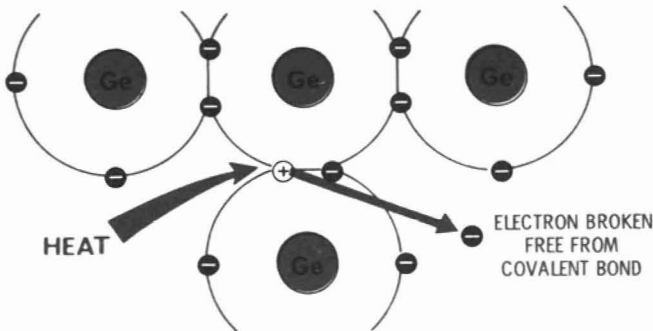

Fig. 2-4. Breaking covalent bonds.
**Hole Generation**—When the electron leaves the bond and becomes free, a so-called hole is left in its place. This chain of events is depicted in Fig. 2-4. The hole that was created tries to find another electron to pair with and to fill the hole.
**Impurities Added**—Fig. 2-4 shows how a hole can be formed in a semiconductor by the application of heat. However, for a germanium transistor, holes are generated by substituting a very small number of atoms of a material that has only three valence electrons for some of the germanium atoms. Fig. 2-5A shows an indium atom in place of one germanium atom. The three indium valence electrons have entered into covalent bonds with adjacent germanium atoms, but this leaves one adjacent germanium atom with an electron that is not bonded with another electron. This absence of an electron corresponds to the presence of a hole. This type of material is called a P type.